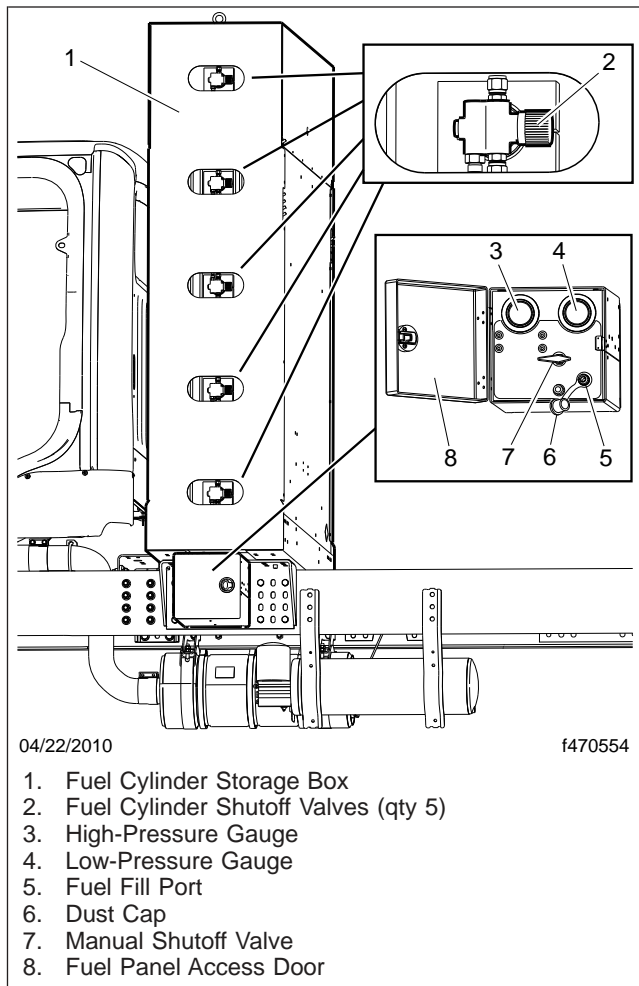

Fig. 19.1, CNG Fuel Cylinder Storage Box (5-cylinder system shown)
2. Ensure all fuel cylinder shutoff valves are open. See Fig. 19.1.